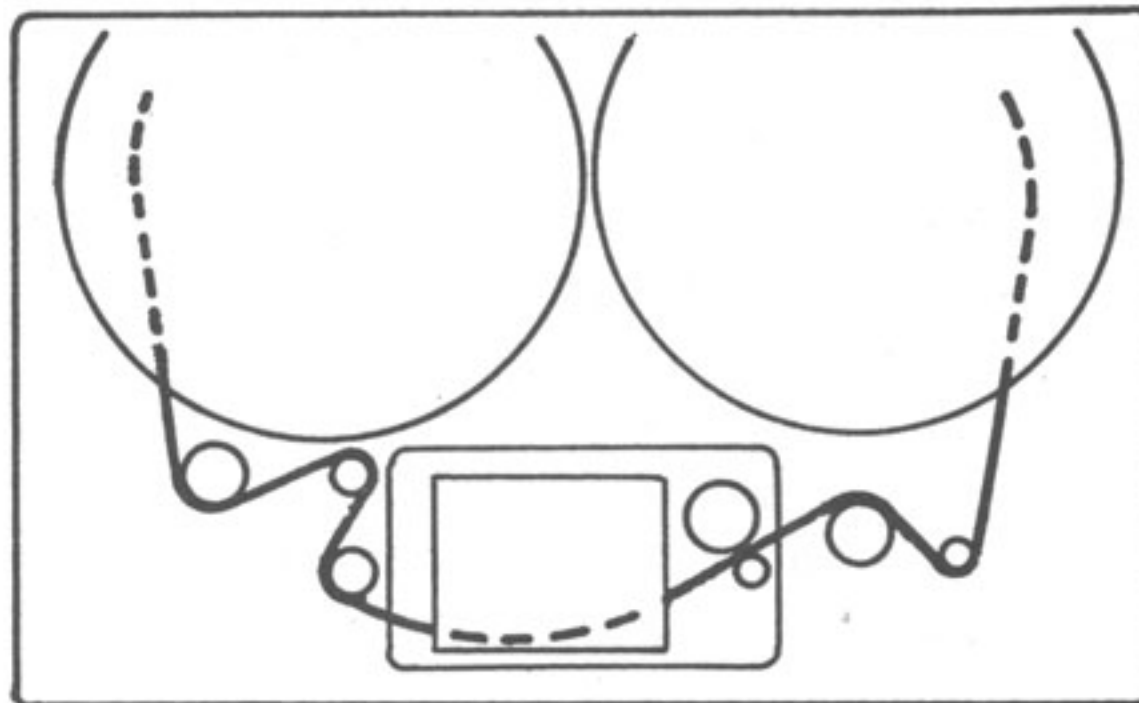

Figure 4-2. Tape Path
- STEP 4.** Remove the opaque card and thread a reel of tape onto the machine as shown in Figure 4-2. Ensure that the frames decimal point in the TAPE TIME Display extinguishes to indicate that a valid radius has been established.